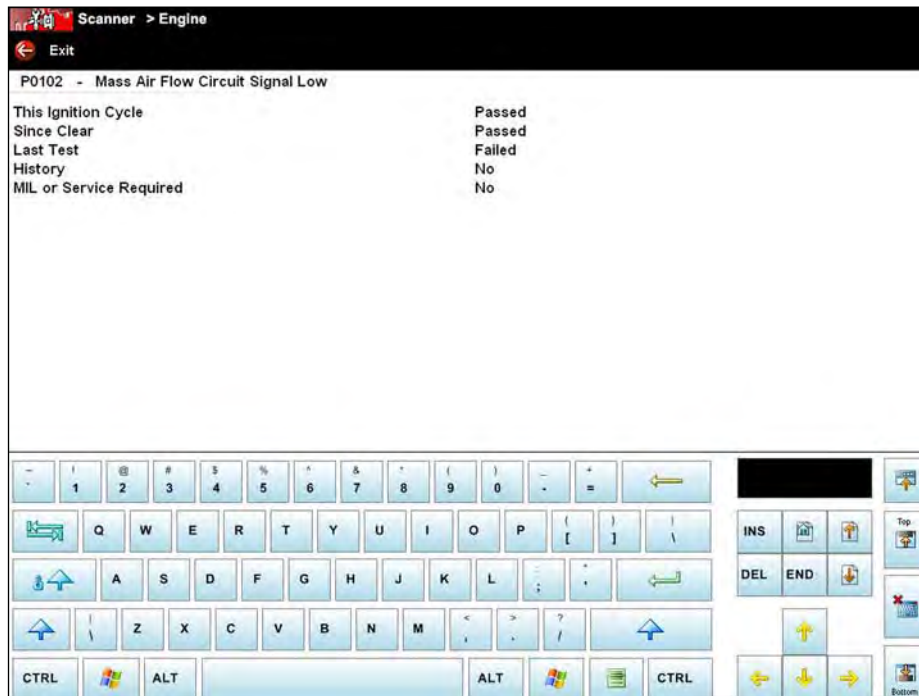

Figure 4-21 Sample DTC status report
4. Select the virtual keyboard **Return** key once all the code characters are entered. The DTC status report displays (Figure 4-21).